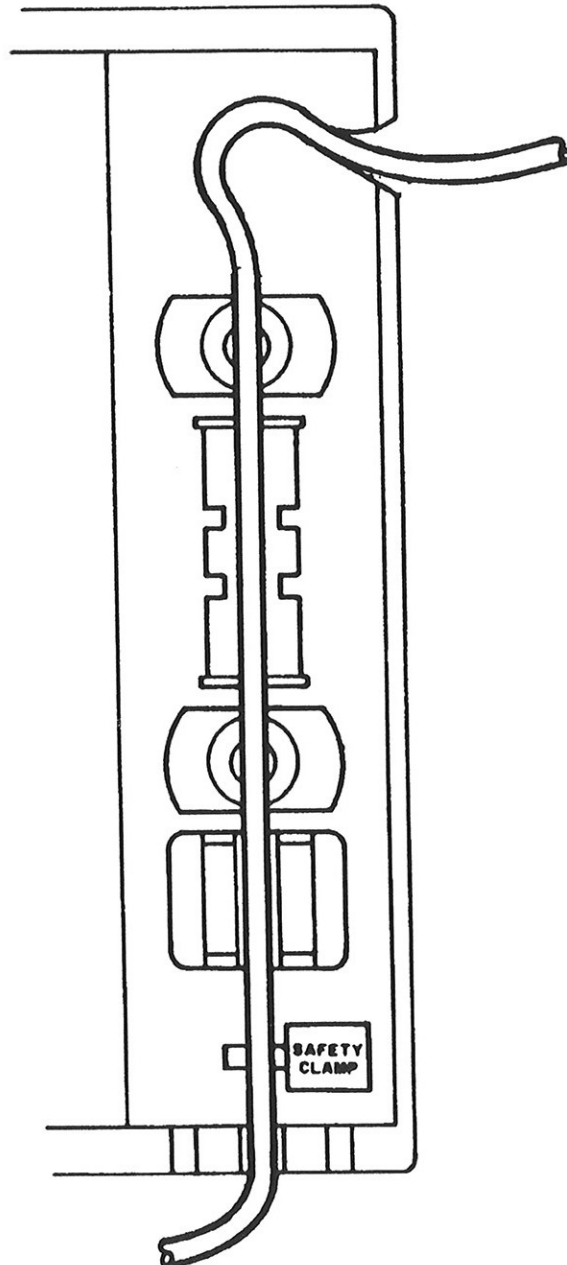

Figure 4. IV Set Loading Diagram
7. Load IV set through guide channel from top to bottom as shown in Figure 4, assuring that no slack exists in the tubing. Ensure that the IV tubing is loaded straight through the pump mechanism tubing guides and safety clamp before closing the pump door.